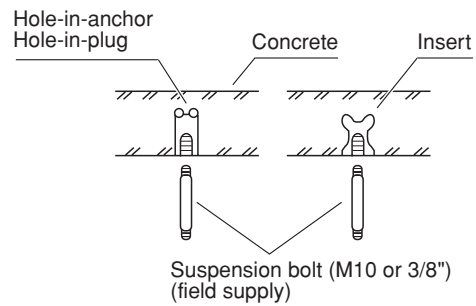

Fig. 3-20
(2) Depending on the ceiling type:
- Insert suspension bolts as shown in Fig. 3-20